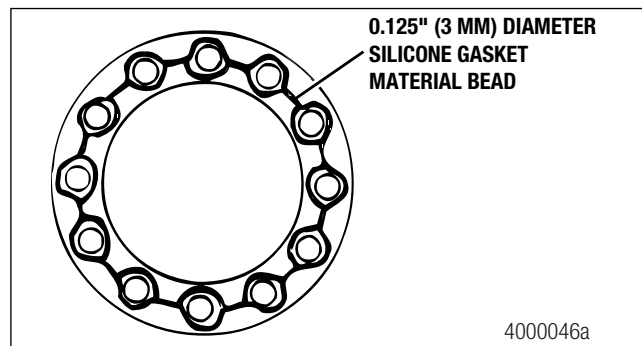

Figure 6.6
3. Apply a 0.125" (3 mm) diameter continuous bead of silicone gasket material around one surface. Also apply the gasket material around the edge of all the fastener holes on that surface. Figure 6.6.